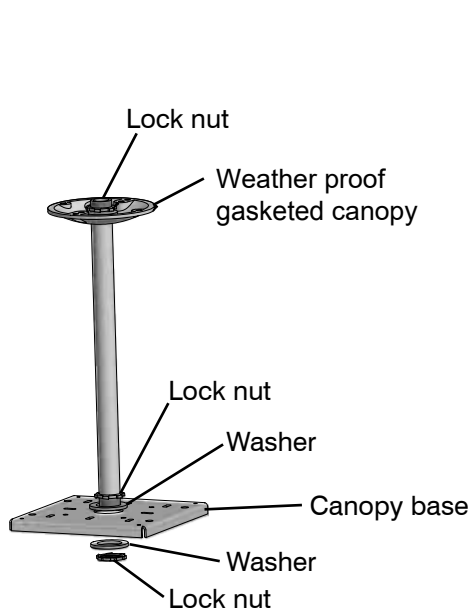
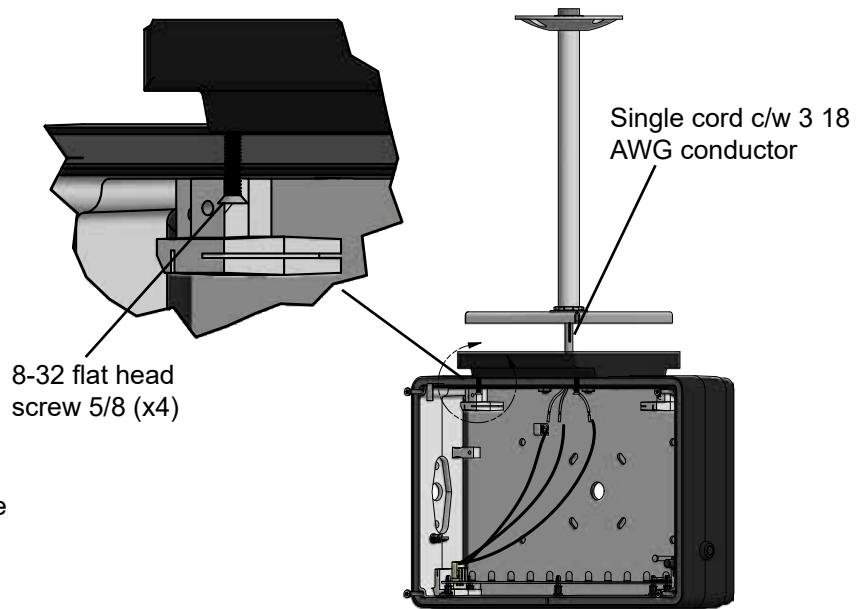

Figure 3
Figure 4
4. Install weather proof canopy to the stem, secured by lock nut, see Fig. 3
6. Extend unswitched 24-hour AC supply of rated voltage from junction box with a single cord with 3-18 AWG conductor stranded (supplied by others) through the stem. Leave at least eight (8) inches of slack wire
8. Secure the unit to the pendant stem with 4 screws, See Fig. 4